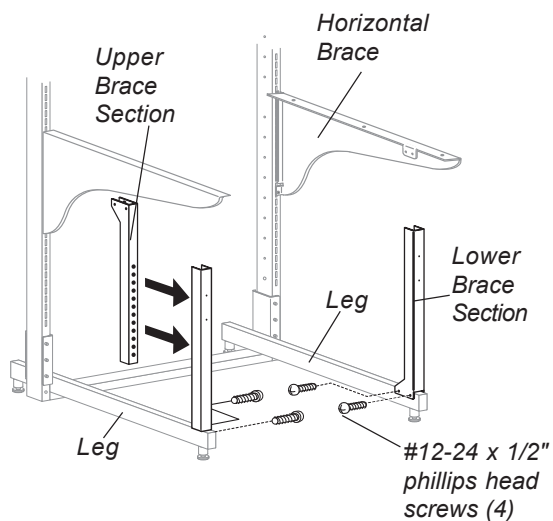

Figure 3
1. Position the Lower Brace sections on the Legs as shown in Figure 3.
2. Place the Upper Brace sections into the Lower Brace sections as shown in Figure 3.